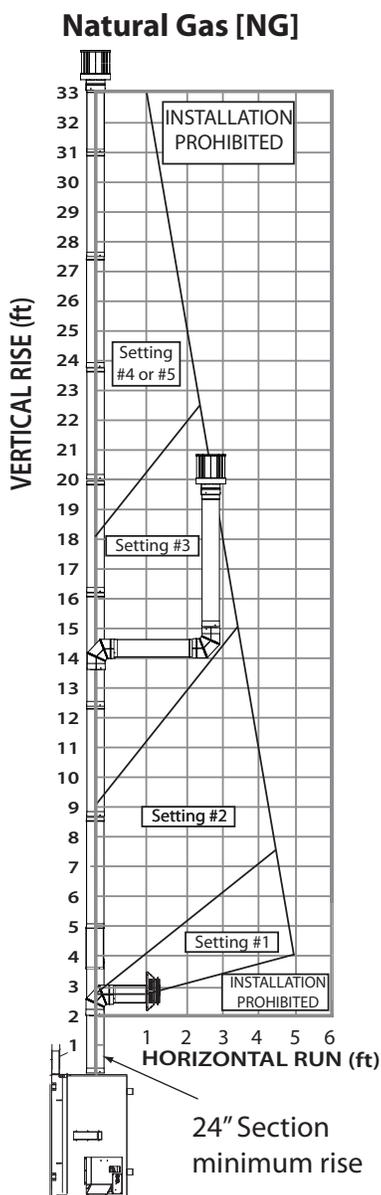
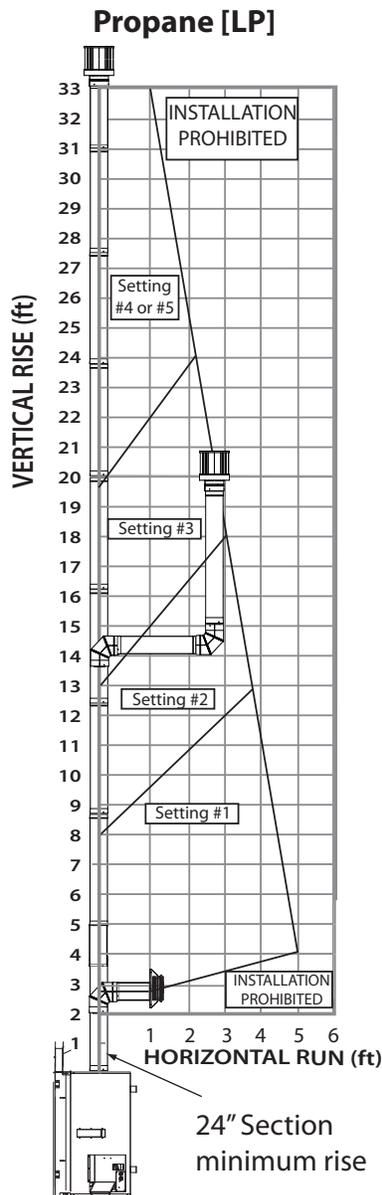

Figure 60: 8" x 11" NG Vent Graph
Figure 61: 8" x 11" LP Vent Graph
***Note:** Be sure to use the proper diagram depending on if your unit uses Natural Gas (Figure 60) or Propane (Figure 61).